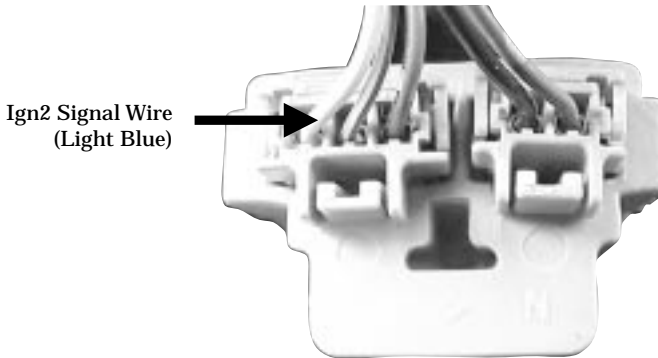

Figure 14.5 Diagnostics Plug
- The signal to control Coil 2, labelled IGN2 is fed from: pin C8 on the 96-99 Integra; pin D7 on the 92-96 Civic. This signal appears on the diagnostics plug shown in Figure 14.5 and is located below the passenger glove compartment. As this plug is located inside the car and the Link Igniter is mounted in